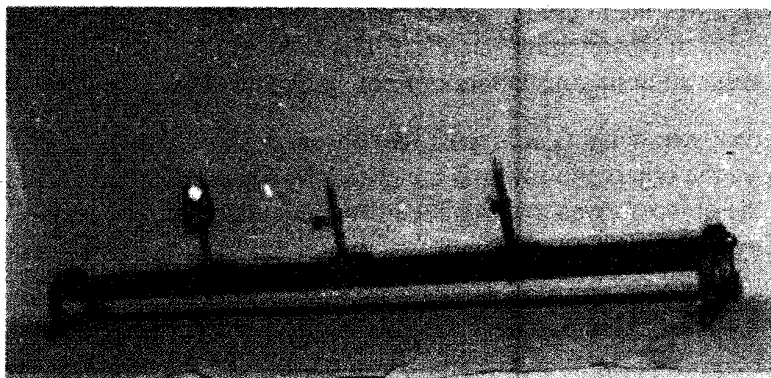

Fig.4.3: Experimental arrangement for determination of focal length of a concave mirror
2. Refer to Fig.4.3. It shows the experimental arrangement for the determination of focal length of a concave mirror. You have to mount various uprights holding pins and the mirror accordingly.